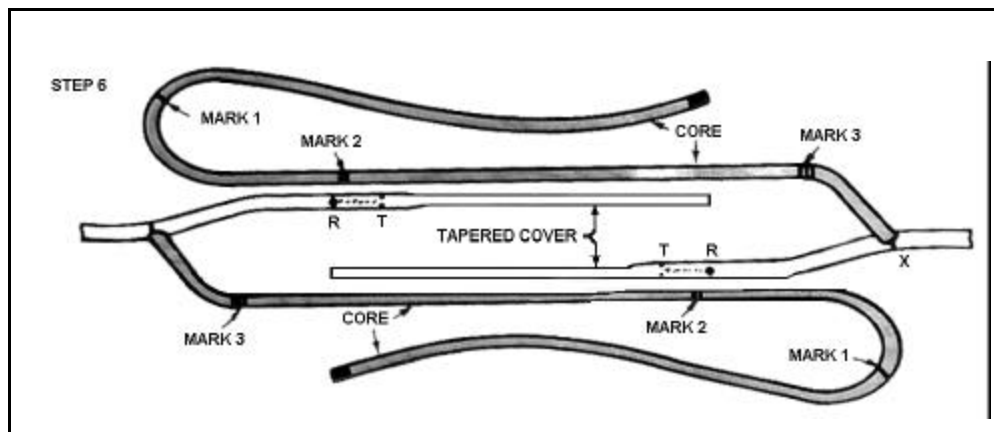

Figure 12-71. Repositioning the Lines
- **STEP 6 -- Repositioning the lines.** Reposition lines for splicing as shown in Figure 12-71. Note how cover of one line has been paired off with core of the opposite line. Avoid twisting.